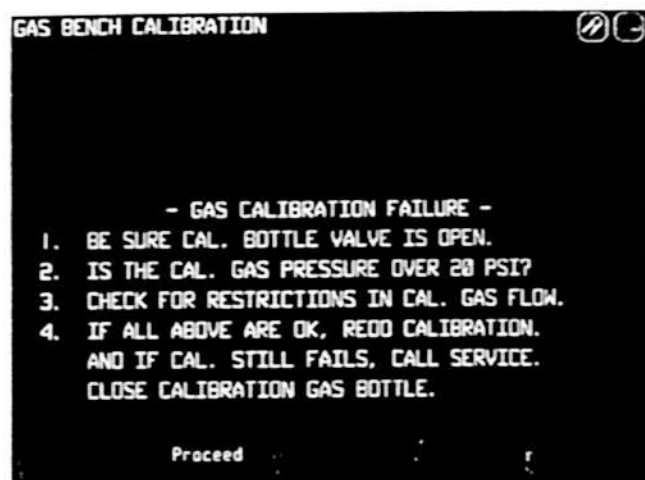

Figure 5-4
4. If the message shown in Figure 5-4 appears, run the gas calibration routine again.